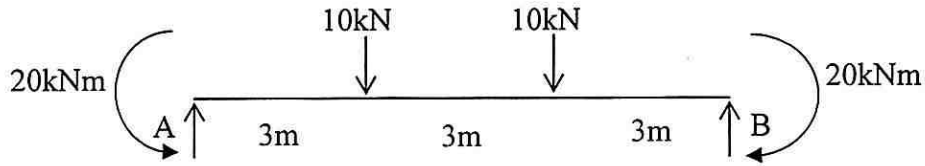

Fig. 3
5. (a) A simply supported beam loaded and supported as shown in figure 3. Plot SFD and BMD for the beam. [6]